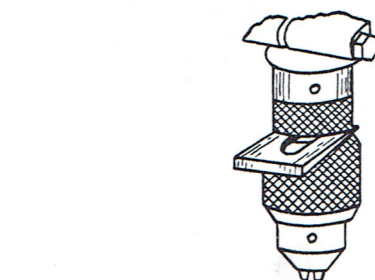

Fig. 3
(1) To move the drill press head or table to different position on the column, loosen the clamp by turning the lever which is located next to the column.
(2) The Quill is locked in position by turning the small lever located at the lower front part of the head.
(3) The two knurled nuts on the spindle stop gauge can be set at any desired position and locked. In this way a definite amount of spindle travel can be obtained and any number of holes can be drilled to a desired depth.
(4) Spindle Adjustment—If longitudinal play develops in the spindle it may be eliminated as follows: (1) Remove spindle guard and the two lock nuts on the feed stop bracket, (2) Remove spring housing by loosening the set screw on the underside of the boss, (3) Remove feed lever and pinion shaft after loosening the set screw in the collar adjacent to the head, (4) Pull spindle and quill downward and remove from head, (5) Loosen set screw in collar directly above quill and while forcing the spindle up against the bottom of the quill, tighten the collar up against the inner race of the quill bearing. Do not make this adjustment too tight, (6) Put spindle back into the drill head and reassemble.
(5) To Remove Chuck from Spindle—See Figure 3. Use the wedge provided for this purpose.
(6) To adjust tension on Quill Return Spring—Turn the spring housing counterclockwise to increase the tension. To release the tension, pull upward on the ratchet pawl knob.
(7) Table Adjustment—To tilt the table, pull out the knurled handle located directly beneath the table and reinsert after adjustment has been made. If the table is tilted 90 degrees right or left, the knurled pin can be inserted in the holes provided. For any intermediate angle the table must be locked in place by tightening the nut.
In using the various types of mortising bits, router bits, etc., the operator **MUST** use a router bit adapter rather than the Jacobs' chuck. On those drills, equipped with a tapered spindle, it is necessary to remove the Jacobs chuck and the threaded collar immediately above it. To remove Jacobs chuck from spindle, place the steel wedge between the chuck and the knurled collar and strike the wedge a sharp blow with a hammer. (See Fig. 3). The chuck should be caught with the left hand in performing this operation. The adapter is placed on the taper, and the threaded collar is then replaced. There is a small flange on the inner side of this collar which will hold the adapter securely in position on the taper. (See Fig. 2).